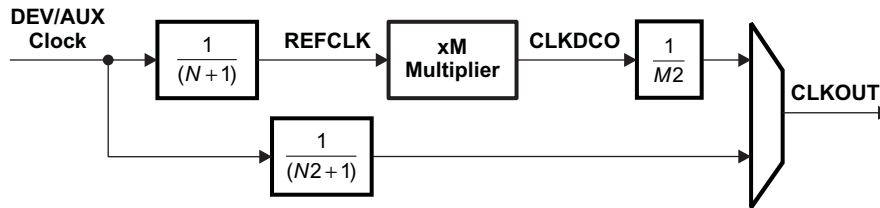
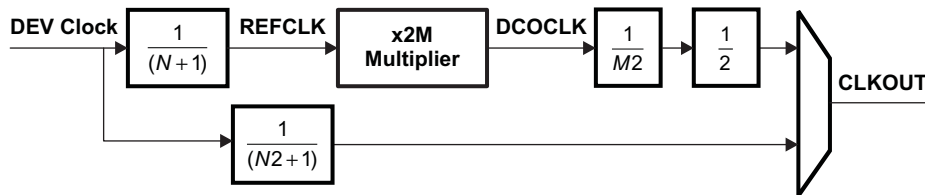

Figure 7-17. Top-Level PLL Simplified Block Diagram
Figure 7-18. PLL_ARM Simplified Block Diagram
The device contains 10 top-level PLLs, and embedded PLLs (within the ARM Cortex-A8, SATA, and CSI) that provide clocks to different parts of the system. Figure 7-17 and Figure 7-18 show simplified block diagrams of the Top-Level PLL and PLL_ARM. In addition, see the System Clocking Overview (Figure 7-7) for a high-level view of the device clock architecture including the PLL reference clock sources and connections.
(1) This parameter describes the limits on the programmable multiplier value M. The multiplication factor for the PLL_ARM is equal to 2 * M (also see Figure 7-18).
(2) The PLL Multiplier supports fractional values (up to 18-bits of fraction) except when the PLL Multiplier is < 20 OR > 2045.